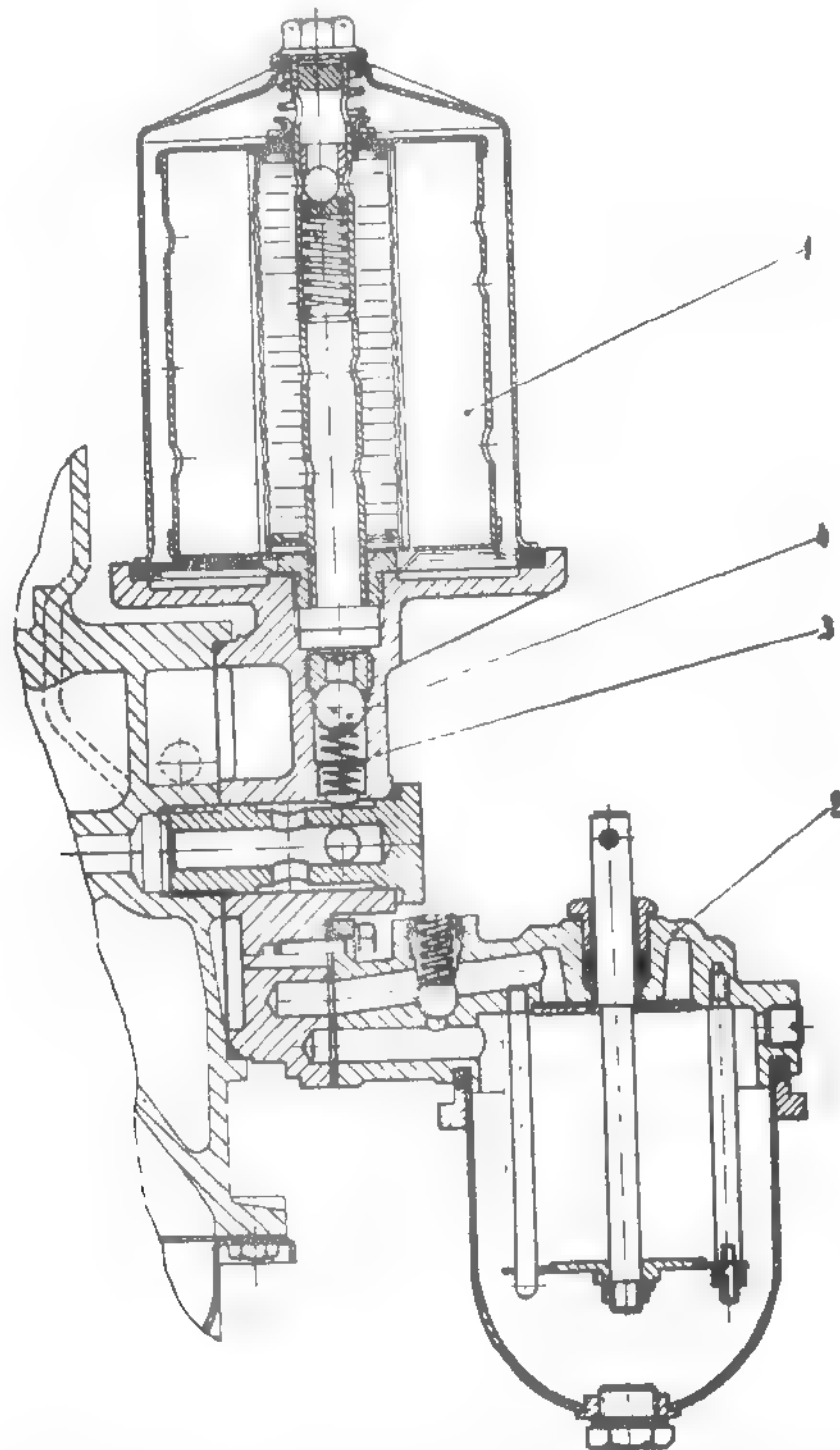

Fig. 4.16. LONGITUDINAL SECTION OF DOUBLE FILTERING SYSTEM.
Some engines are equipped, on demand, for areas with heavy duty operation conditions, with a second, supplementary oil filter, interposed before the fine filter, in order retain the rough impurities (50 microns) (see fig. 4.16).
- Take down fine oil filter (1) from intermediate support (3) - see fig. 4.16. -
- Remove from intermediate support rough oil filter (2), together with its gasket.